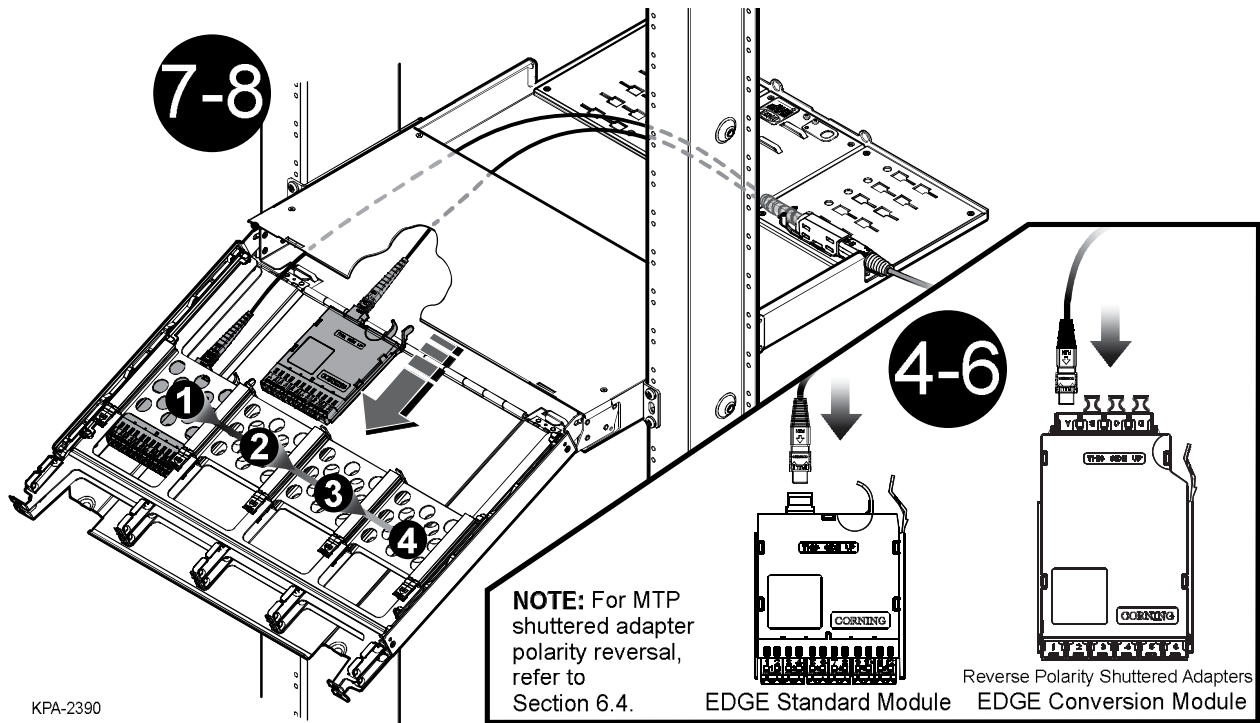
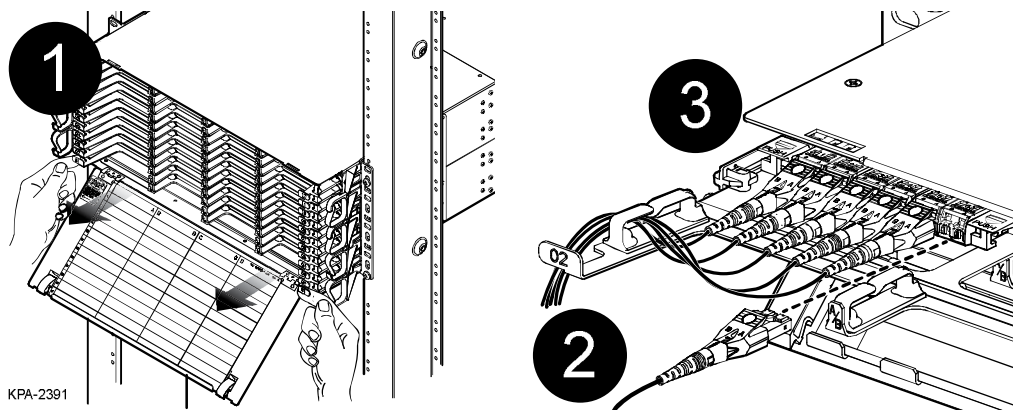

Figure 19 — Install EDGE Module
Figure 20 — Mate Jumpers and Route Legs
- Step 6: Mate the MTP connector(s) into the adapter(s) at the back of the module (Figure 19).
- Step 7: Starting with the lower left corner (Tray 1, slot A, as seen from the front), insert the module from the rear until it locks into place (Figure 19).
- Step 1: Open housing front door and pull out tray (Figure 20, step 1).
- Step 3: Remove dust caps from LC or MTP connectors on the jumper cables. Clean the connector end-faces using the CLEANER-PORT-LC tool or the MTP Cleaning Tool (P/N 2104466-01), respectively. **NOTE:** Only LC connectors are shown in Figure 19 and Figure 20.
- Step 4: Mate the connectors in the adapters (Figure 20, step 2).
- Step 5: Route jumper legs, right and/or left out either side of the housing. (Do NOT cross legs in opposite directions.) Store legs in clips at front of tray (Figure 20, step 3).